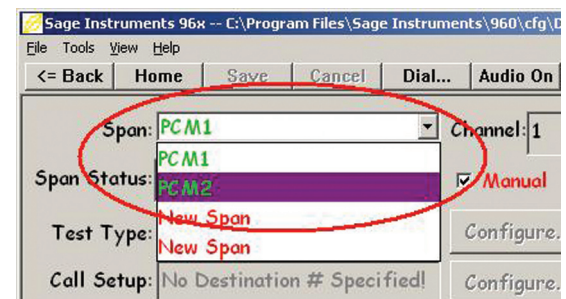

Figure 3.1.8
5. Without leaving the main test window use the ‘Span’ pull down menu in the upper left hand corner to switch span selection to PCM 2 (see close-up figure 3.1.8).